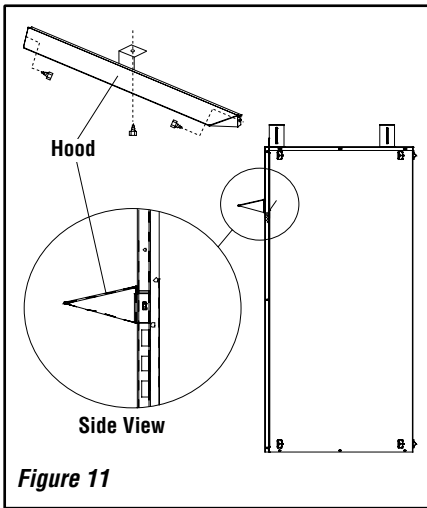

Figure 11
**NOTE:** A hood comes standard and is required. The factory-supplied hood must be installed on the firebox for safe operation in all installations. See Figure 11.
- Step 2.** Align the hood with the holes in the side frames as shown in Figure 11. Install three screws as shown in Figure 11. Make sure hood is level and secure.